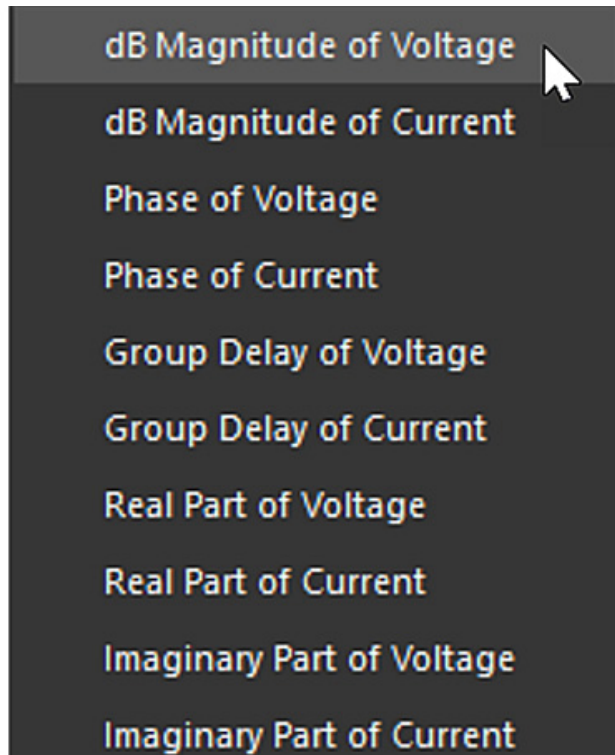

Figure 6. Advanced Submenu Options
2. Choose PSpice – Marker – Advanced – dB Magnitude of Voltage. Figure 6 shows the Advanced submenu options.